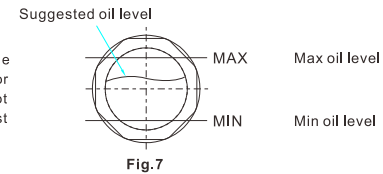

Fig.7
(1) The oil level shall be always kept between position MAX and MIN of oil sight glass during operation (refer to Fig. 7). Add oil when the oil level is lower than position MIN and discharge oil by removing the oil drain plug (refer to Fig. 2) when the oil level is above position MAX.
(2) Check the oil color. Replace the oil if the color is other than clear and transparent.